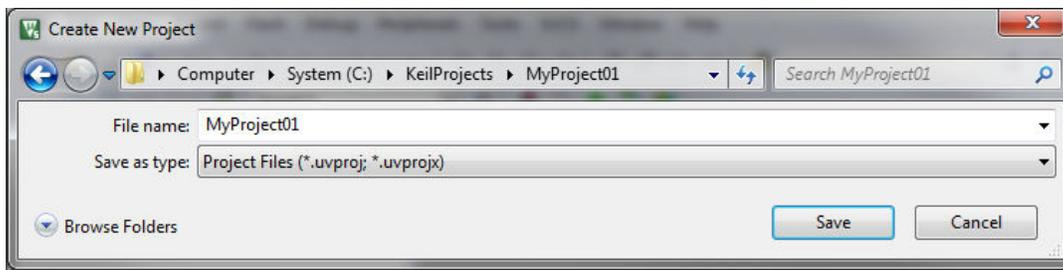

Figure 1-28. Create New Project dialog
- Navigate to the folder where you want to create the project, for example C:\KeilProjects\MyProject01. Type the name of the project, for example MyProject01. Click Save. See Figure 1-28.